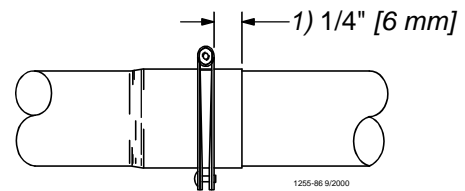

Figure 24. Clamp Installation
Continue down the entire length of the feeder line so that every joint is secured with a standard Clamp or Clamp/Anti-Roost Bracket. **Figure 24** shows the proper clamp location on the tube joint. *Do not tighten the clamp at this time.*
- make sure the clamps are located, as shown in **Figure 24**.